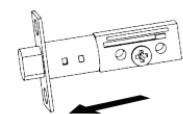

Figure 1a
- Hold latch with numbers facing forward and thumb pressing on the bolt (Figure 1a).